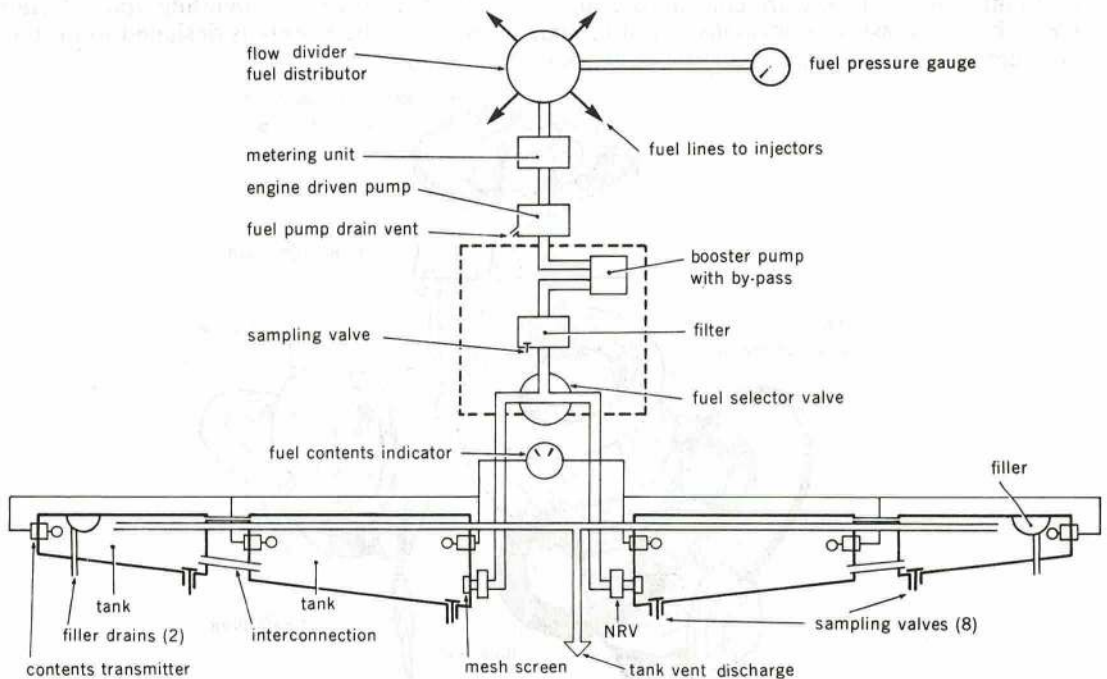

Fig 6.1.5 Bulldog T.Mk1 fuel system
16. Not all modern 'open orifice' fuel systems are proofed against the effects of negative 'g', and the fuel system fitted to the Bulldog trainer aircraft is a basic fuel system without refinements (Fig 6.1.5).